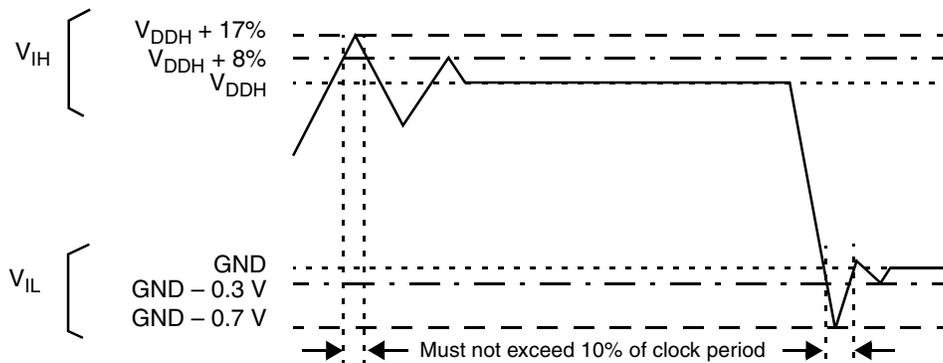

Figure 2-1. Overshoot/Undershoot Voltage for V_{IH} and V_{IL}
1. See **Figure 2-1** for undershoot and overshoot voltages.